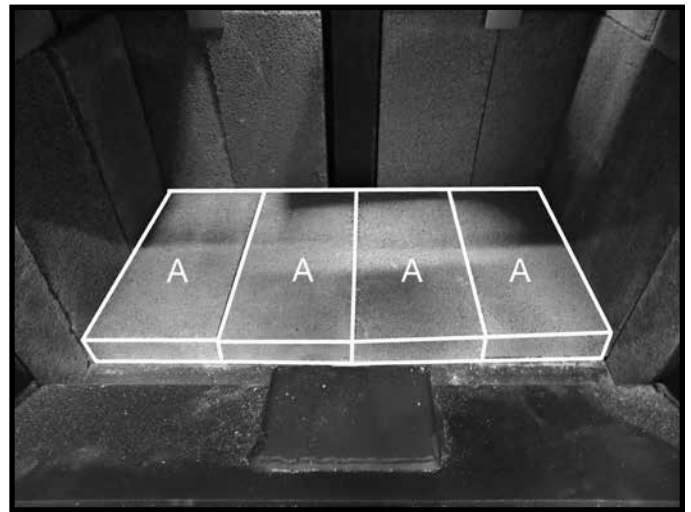

Figure 16: Four floor bricks in place.
3. Place four "A" firebricks on the firebox floor as shown in Figure 16.